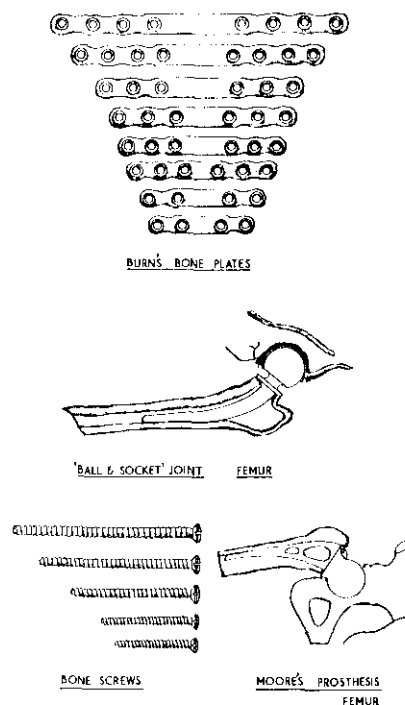

Fig. 2. Metallic implants. The Burn's bone plates are one third full size. The bone screws are one half full size.
**Fig. 2.** It took just five minutes to prepare the tubes of this eight-year-old calorifier for the Boiler Inspector after 12 months continuous running with steam-side temperatures at 250".